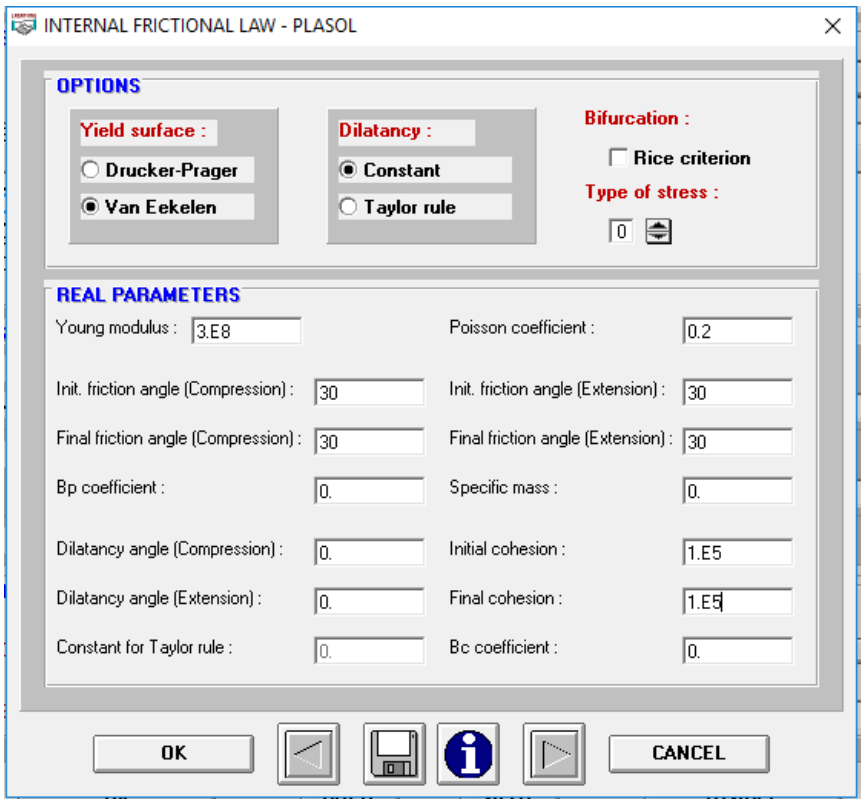

Figure 6.11 Parameters window in LAGALAW.
We now define the parameters of the mechanical laws in LAGALAW. We have five mechanical laws in total: four for the *PLXLS* elements and one for the *LICHA*. Select *Internal Friction* and *Plasol* for the first four laws and fill the parameters as in Figure 6.11.
- The mechanical laws (number 2 and 3) remain unchanged compare to the previous example (see Figure 6.11 and Figure 6.12).